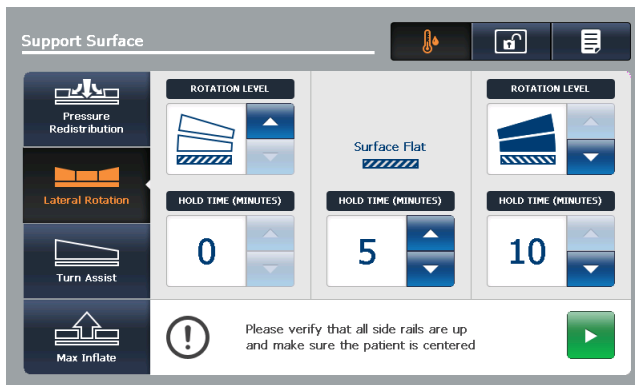

Figure 56: Starting a one-sided Lateral Rotation
2. Tap **Up** on the opposite side to the desired angle (Figure 56 on page 69).
3. Set the desired hold time (Figure 56 on page 69).